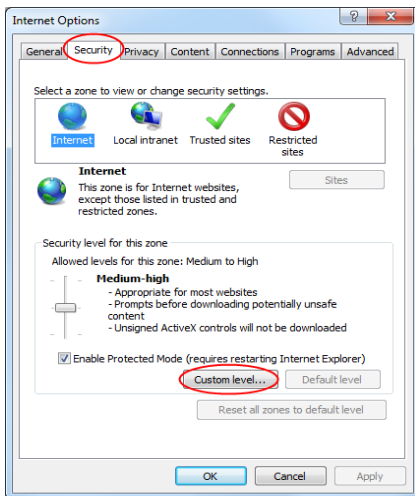

Fig 10-1
- ① Open IE browser. Click  → Internet Options.
- ② Select Security → Custom Level. Refer to Fig10-1.